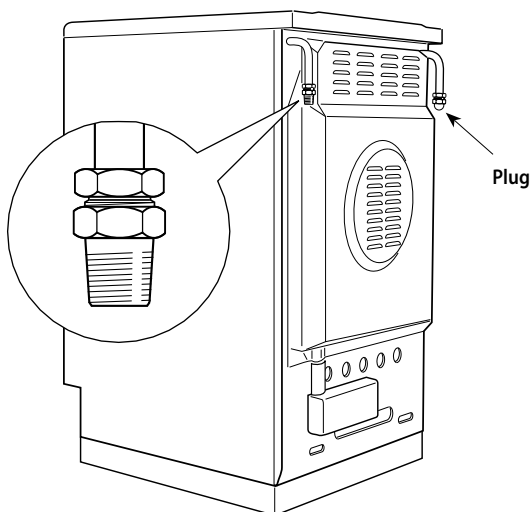

Figure 7 Gas supply inlets
- Close off the unused inlet with the cap and sealing gasket supplied (Fig 7).